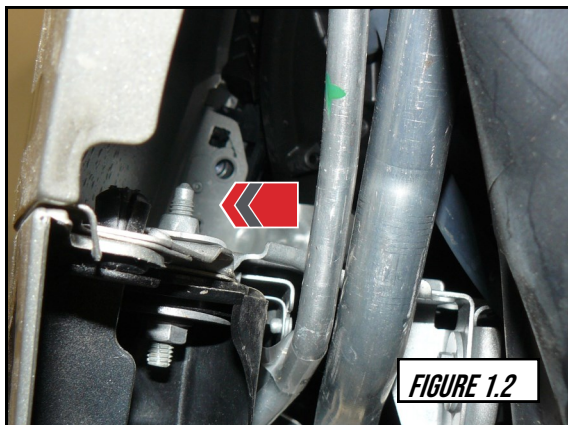

FIGURE 1.2
The **Arrow** in **Figure 1.2** denotes the location of (2) two hidden bumper fasteners, driver side and passenger, that can be accessed by pulling the fender lining out of the way.